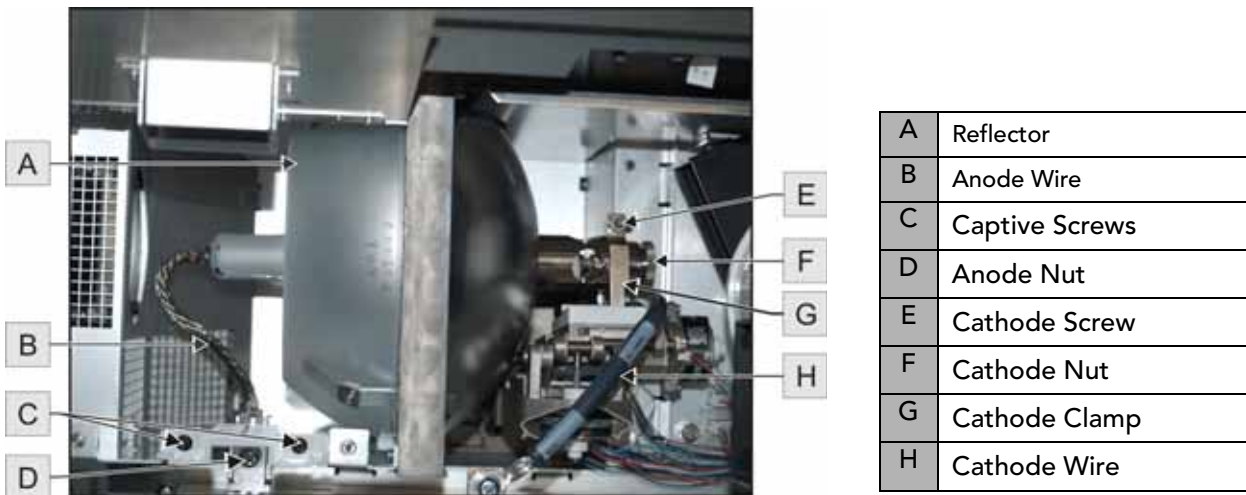

Figure 5-16 Lamp Assembly
5. Using a 5mm hex key, loosen the nut securing the anode wire (**Figure 5-16/D**).
6. Loosen the cathode screw (**Figure 5-16/E**) using the 5mm hex key mounted to the inside of the lamp door.
7. Holding the lamp from the anode end, carefully unscrew and remove the cathode nut (**Figure 5-16/F**).
8. Holding the lamp from the anode end, carefully slide the lamp out, ensuring not to make contact with the reflector (**Figure 5-16/A**). Use your free hand to help guide the cathode end out of the reflector, on an angle.